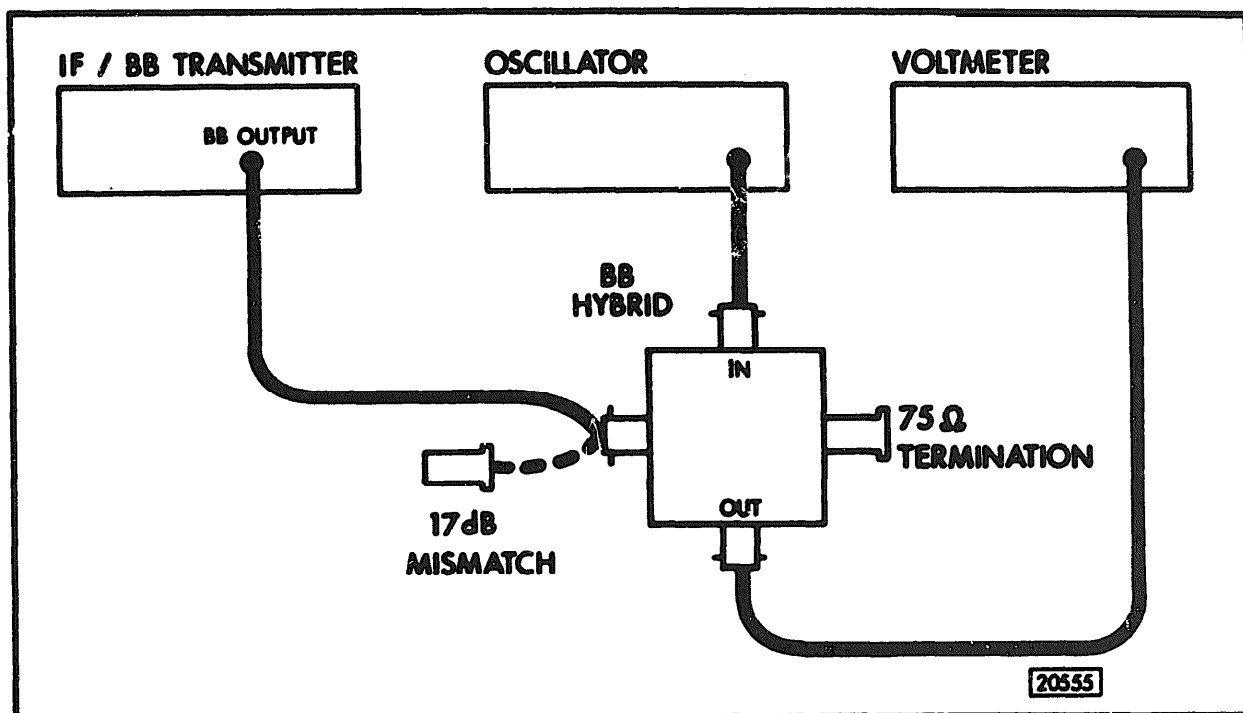

Figure 4-2 BB Output - Return Loss Check
- 2. **Connect the equipment as in Figure 4-2 with**